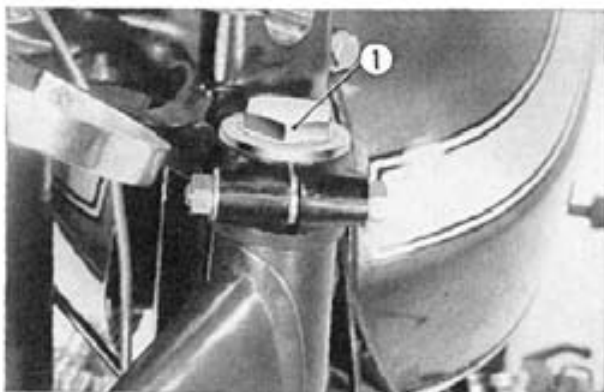

Fig. 19-17 ① Top filler plug
b. Remove the top filler plug and fill the front fork with 7.0~7.3 ozs. (220~230 cc) of premium quality of SAE 10 W-30 grade. (Fig. 19-17)
(3) Check the following items and if there is any fault, correct before riding.